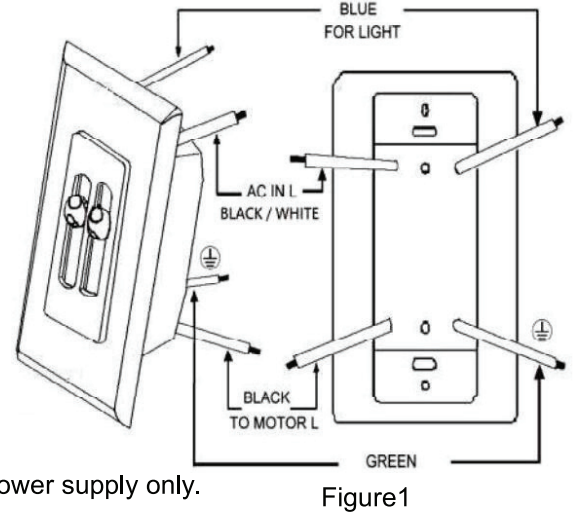

Figure 1
2. Installation of this control requires that a three-conductor cable with ground wire be run between the control wall box and the ceiling fan outlet box. (Figure 1)